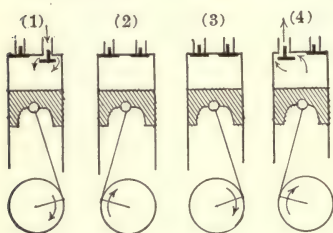

FIG. 193. — Four cycles of a gas engine.
the piston, corresponding to two revolutions of the shaft, are shown in figure 193. It will be noticed that whereas the *two-cycle* type has *no* valves in the cylinder, the *four-cycle* has *two* valves, one for the intake of gas and air and another for the exhaust of the spent gases. These valves are operated mechanically
by cams on a small **half-time shaft**, which is driven through gears at half the speed of the main shaft. In figure 193, (1), the intake valve is open, and the piston is going down, thus drawing in the explosive mixture. In (2) the return or back stroke of the piston compresses the mixture. In (3) the mixture has been ignited by an electric spark or flame, and power is obtained from the thrust of the expanding gas on the outward stroke. This is the working stroke. In (4) the exhaust valve is open and the spent gases are being pushed out of the cylinder by the returning piston. Then